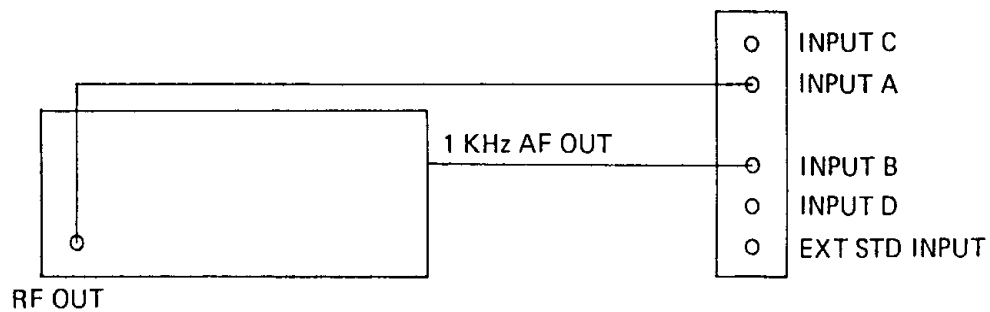

Figure 4-8, Ratio A / B Test Configuration
4.1.11.2 Connect the 2251A to the signal generator as shown in **Figure 4-8**. Set the signal generator to 50 MHz, 100 mV rms. Verify that the counters measurement result is 50000 ± 10 .